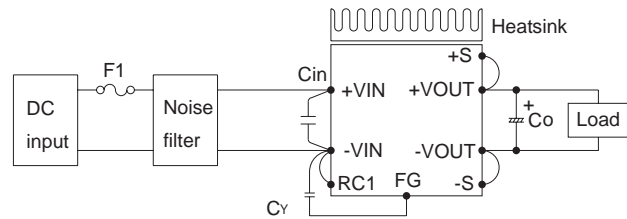

Fig.2.1 Connection for standard use
■ In order to use the power supply, it is necessary to wire as shown in Fig.2.1 and external components in table2.1.